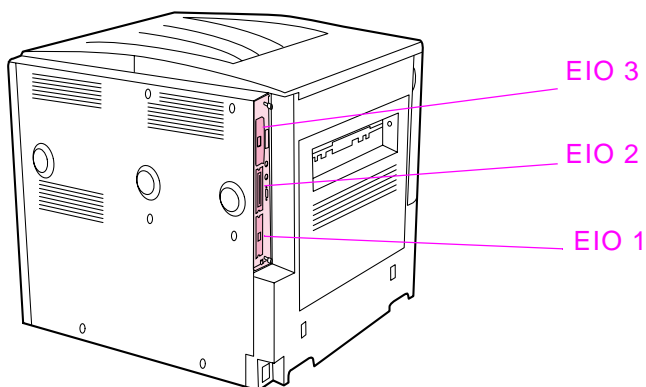

Figure 22. EIO slots
- Use the graphic in figure 22 for the location of the EIO cards or optional mass storage device, such as a hard disk.